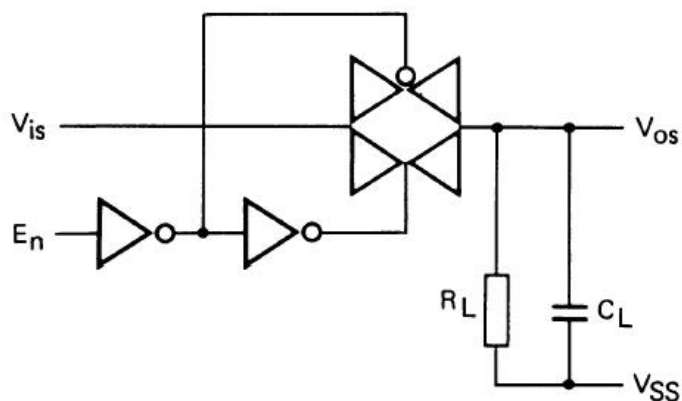

图 7
5. $R_L = 10 k$; $C_L = 15 pF$; $E_n = V_{DD}$; $V_{is} = 1/2 V_{DD}(p.p)$ (正弦波, 直流偏置为 $1/2 V_{DD}$); $f_i = 1 kHz$; 见图7。
$20\log (V_{OS} / V_{IS}) = -50\text{dB}$; 见图7;
$20\log (V_{OS} / V_{IS}) = -3\text{dB}$; 见图7;